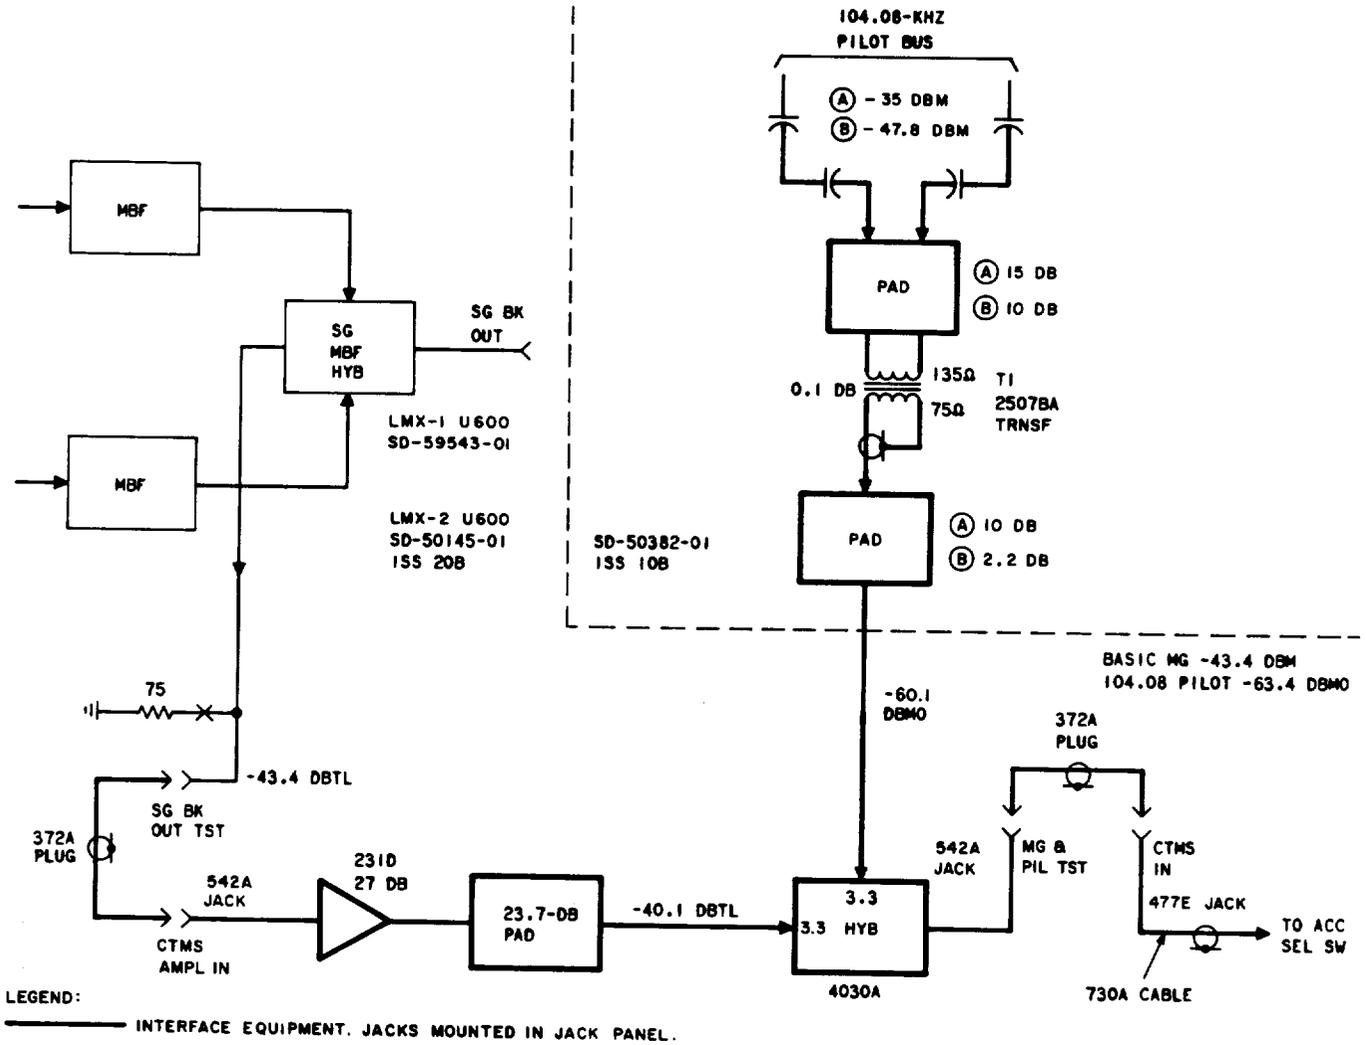

Fig. 1—LMX-1 and LMX-2 Multiplex Mastergroup Transmitting and Pilot Access Circuit (U600 Configuration)
2.01 There are two circuits used to access 104.08-kHz pilot bus signals for CTMS measurement. The first, shown in Fig. 1, is a U600 configuration in which the PB signal is combined with the MG signal in a hybrid arrangement, then fed to the CTMS control center via the switch access network. Isolation between sources is provided by hybrids, pads, and amplifiers as required. The second arrangement, for L600